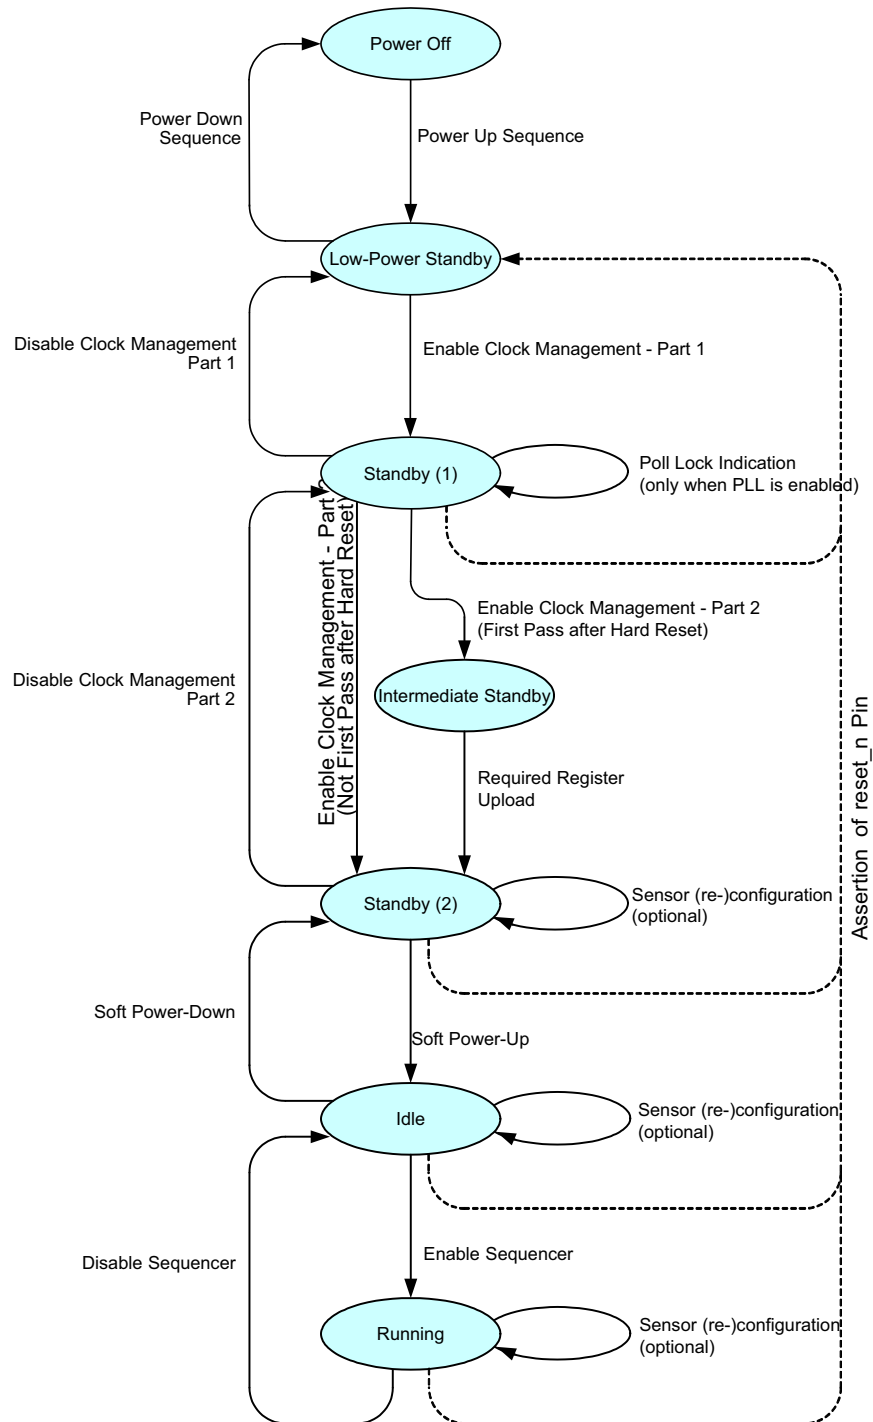

Figure 17. Sensor Operation Flowchart
Figure 17 shows the sensor operation flowchart. The sensor has six different ‘states’. Every state is indicated with the oval circle. These states are Power off, Low power standby, Standby (1), Standby (2), Idle, Running.
Check the PLL\_lock flag 24[0] by reading the SPI register. When the flag is set, the 'Enable Clock Management– Part 2' action can be continued. When PLL is not used, this step can be bypassed as shown in Figure 17 on page 16.